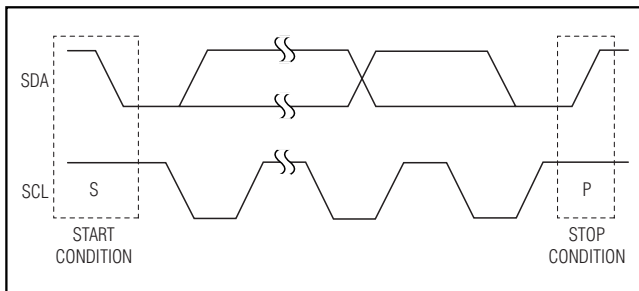
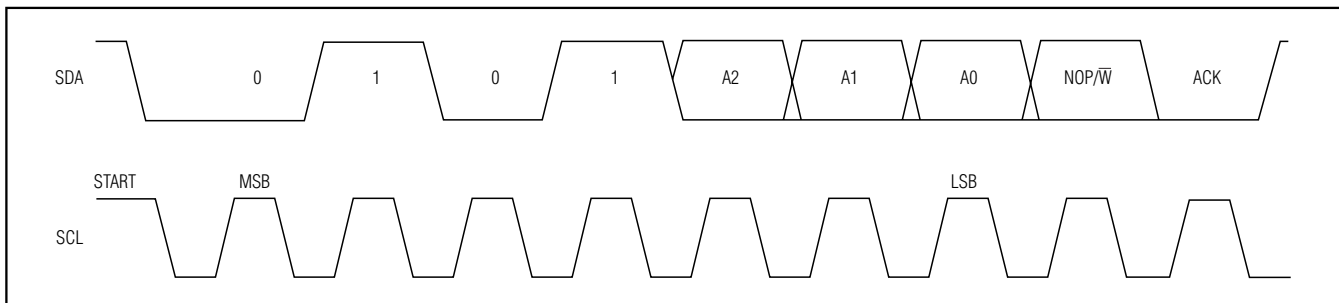

Figure 3. Start and Stop Conditions
Figure 4. Slave Address
Each transmission consists of a START (S) condition (Figure 3) sent by a master, followed by the MAX5477/MAX5478/MAX5479 7-bit slave address plus the NOP/ $\bar{W}$  bit (Figure 4), 1 command byte and 1 data byte, and finally a STOP (P) condition (Figure 3).
Both SCL and SDA remain high when the interface is not busy. A master controller signals the beginning of a transmission with a START condition by transitioning SDA from high to low while SCL is high. The master controller issues a STOP condition by transitioning the SDA from low to high while SCL is high, when it finishes communicating with the slave. The bus is then free for another transmission (Figure 3).
The MAX5477/MAX5478/MAX5479 have a 7-bit-long slave address (Figure 4). The 8th bit following the 7-bit